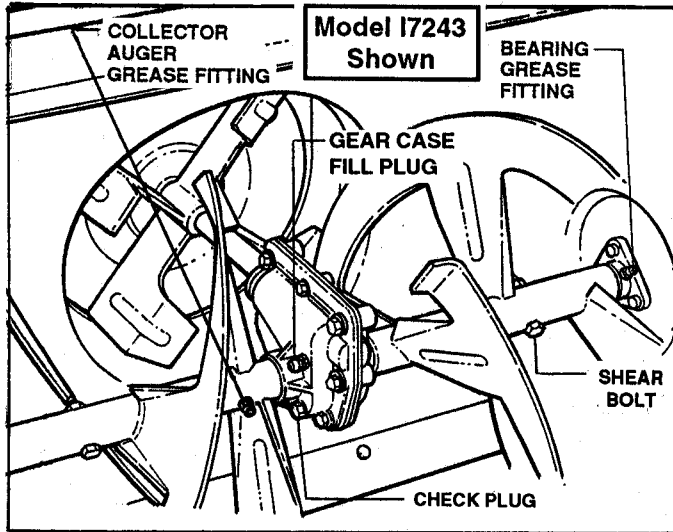

FIGURE 3.1
Refer to the Engine Owner's Manual for lubrication requirements on the engine powering your Snow Thrower. Your Snow Thrower Unit (Model I7243 Only) has (4) grease fittings, two (2) on the augers, two (2) on the auger shaft bearings, as shown in Figure 3.1. Service these and the other general lube points as follows:
AUGER LUBRICATION: ONE EACH YEAR, preferably at the end of the winter season, remove the two (2) shear bolts, apply grease to the fittings, then spin the auger to work the grease out along the auger shaft. Continue greasing and spinning augers until grease appears at both ends of each auger tube. Reinstall shear bolts and nuts after servicing. This procedure will prevent the auger shaft from rusting to the auger tube. Refer to Figure 3.1.
BEARING LUBE: ON I7243 MODELS, ONCE EACH YEAR, apply one or two shots of grease from gun to the bearing grease fittings located at the ends of the auger shaft, just inside blower housings (On I4223, I6223 Models, bearings are self-lubricating). Refer to Figure 3.1.
If a squeeze tube of BENALENE 900™ (Part No. 2-9577) is used, unscrew grease plug and apply through hole until grease is visible from check hole. Reinstall fill plug and check plug. Refer to Figure 3.1.